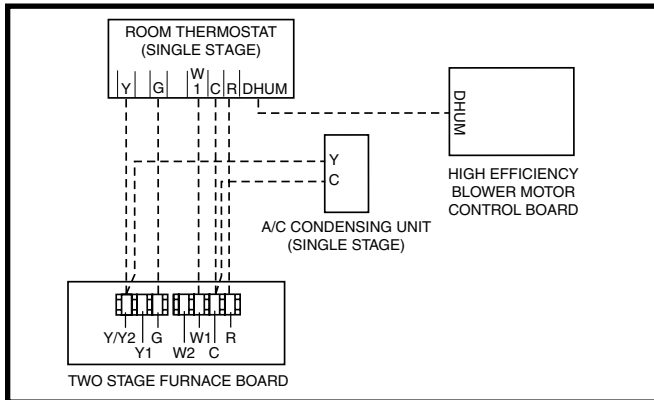
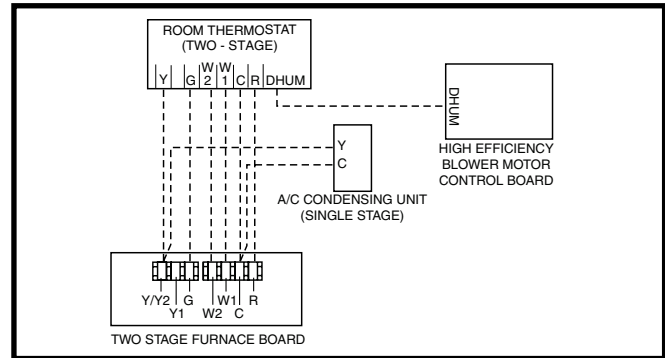
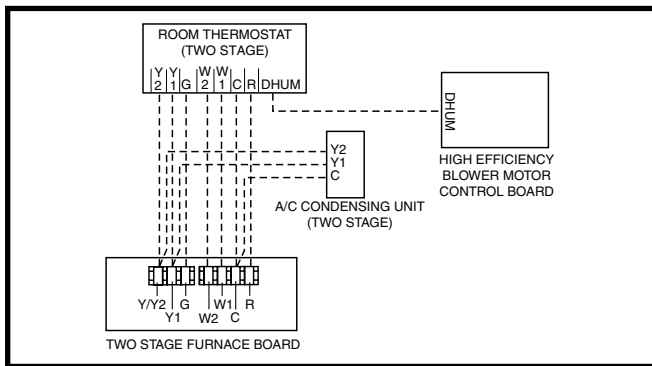

Figure 20. Wiring Configuration 1
Figure 21. Wiring Configuration 2
Figure 22. Wiring Configuration 3
- Connect the thermostat's **W** output to the furnace control boards **W1** terminal. This allows the furnace to always run in low output mode. See Figure 20.
This option uses the full two stage heating capability of the furnace with a single stage outdoor unit. See Figure 21.
This option uses the full two stage heating capability of the furnace with a two stage outdoor unit. See Figure 22.
The Autostaging feature makes it possible to use a single stage thermostat and still receive some of the benefits of 2-stage furnace operation. If Autostage is enabled, the furnace will drop to **LOW** fire after initially starting in **HIGH** fire. After a period of 10 minutes, the furnace will then stage up to **HIGH** fire, until the heating load is met. See Figure 20 and the Low Voltage Connection section on page 23.
- ✓ Verify that all needed thermostat wires are securely connected to the correct leads on the terminal strip of the circuit board. See Figure 20 (page 24), Figure 21 (page 24), & Figure 22 (page 25).
The operating sequences for the heating, cooling, and fan modes are described below. Refer to the field and furnace wiring diagrams: Figure 19 (page 24), Figure 20 (page 24), Figure 21 (page 24), Figure 22 (page 25) & Figure 30 (page 35), Figure 31 (page 36), Figure 32 (page 37), & Figure 33 (page 38).